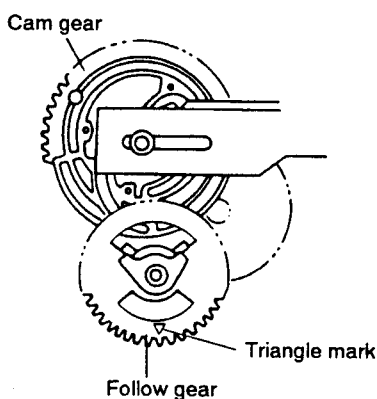

Fig. 15
- ② Install the follow gear where the portion of chipped tooth of the follow gear come to the position as shown in Fig. 15.